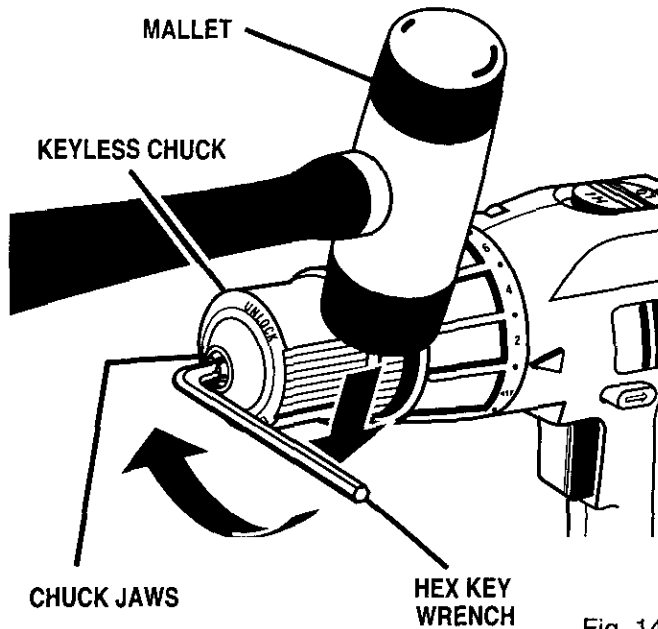

Fig. 14
See Figures 14, 15, and 16.
- Tap the hex key wrench sharply with a mallet in a clockwise direction. See Figure 14. This will loosen the screw in the chuck for easy removal.